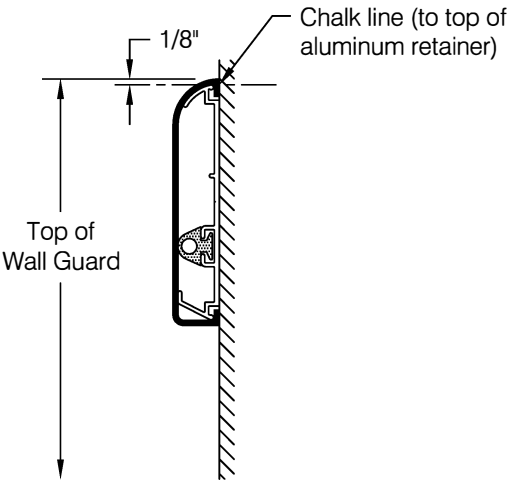

fig 1
- Step 1:** Determine top of wall guard and snap a chalk line 1/8" below to locate top of aluminum retainer, see **fig 1**.